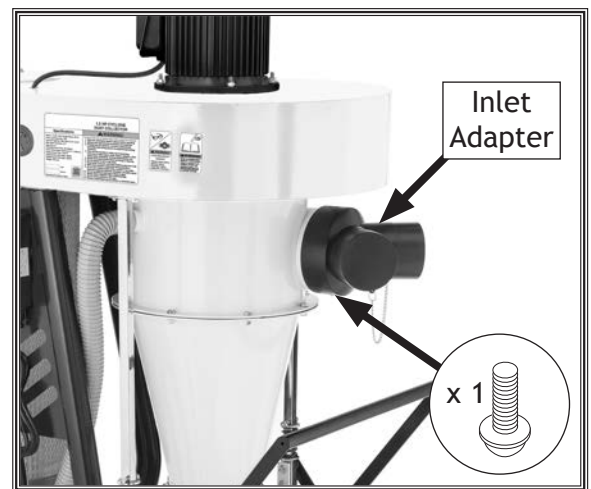

Figure 31. Inlet adapter installed on dust port.
- 35. Install inlet adapter on dust port and secure with 10-24 x 3/8" flange screw (see Figure 31).